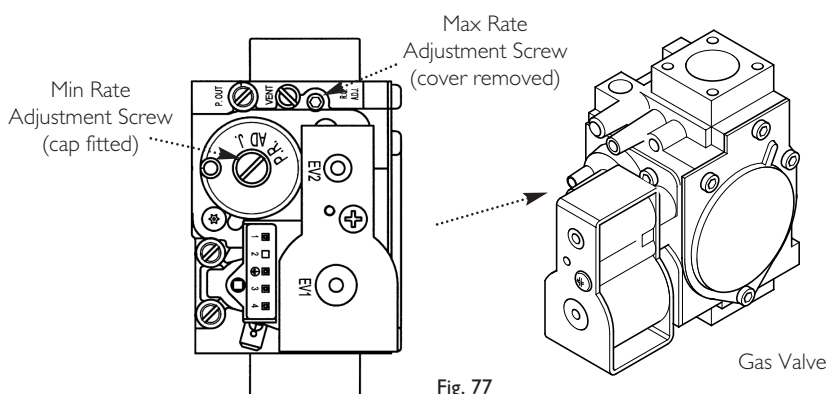

Fig. 77
9. It is possible to alter the CO2 by adjustment of the gas valve. Remove the plastic cover from the 'Max Rate' adjustment screw. At maximum rate the 'Max. Rate' adjustment screw should be turned, using a suitable hexagon key, until the correct reading is obtained (Fig. 77).
11. With the boiler on minimum, the 'Min. Rate' adjustment screw must be altered, using a suitable hexagon key, after removing the cap (Fig. 77). If the CO2 is reset at either boiler rate it must be rechecked at the other rate and also adjusted if required.